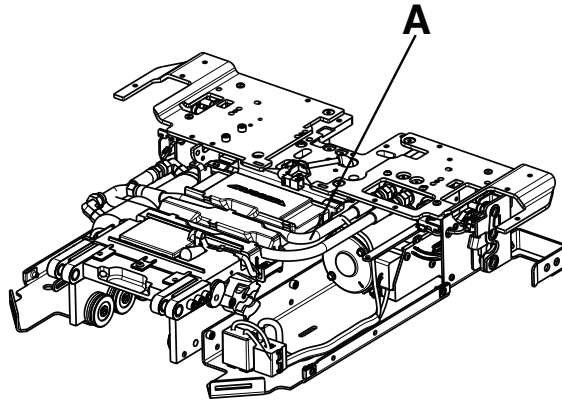
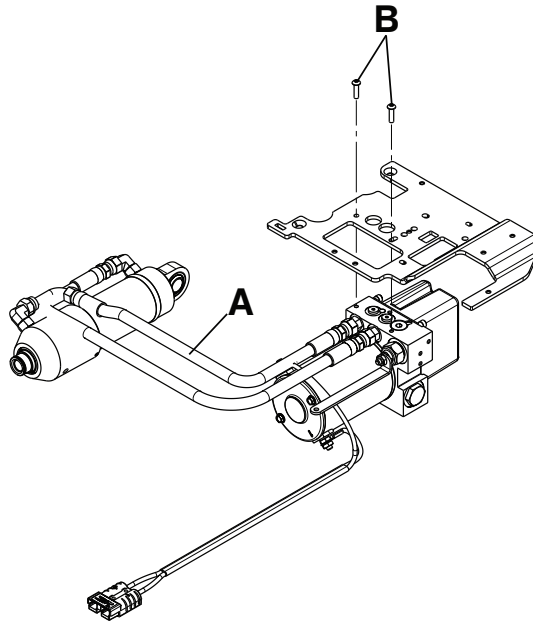

Figure 39 – Hydraulic hose location
Figure 40 – Manifold fitting screws location
- Using an 11/16" combination wrench, disconnect the hydraulic hose (A) closest to the mounting bracket at the head end of the trolley (Figure 39 and Figure 40).
4. Using a T25 Torx driver, loosen (do not remove) the two screws (B) that secure the manifold fitting to the left wing plate (Figure 40).